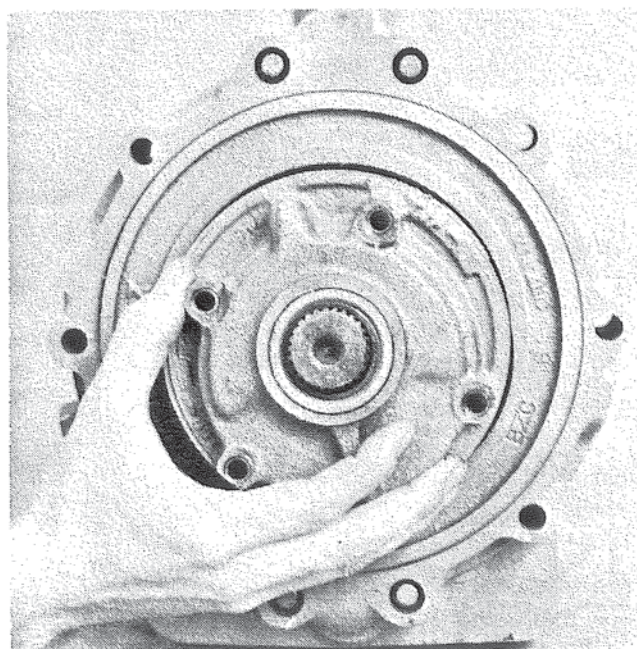

Figure 9. Removing Backing Plate.
2. For the pump assembly with the backing plate, remove the one (1) flat head machine screw and lift backing plate to expose gears. Figure 9.